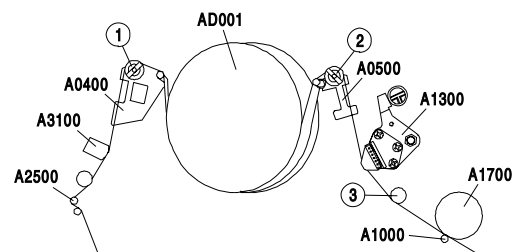

Fig. 22
- Re-adjust the reverse rollers (1 / 2) (Fig. 22) if necessary so that the tape does not touch the top or bottom edge of the rollers.
- Adjust the tilt of the A/C head with screw (4) (Fig. 24) so that the tape passes the tape guide pin (3) (Fig. 22 / 23) in the middle between the top and bottom edge.
- Adjust the reverse rollers ① / ② (Fig. 22) so that the FM packages at the tape lead-in and lead-out side do not exceed the limit value $b/a \leq 0.75$ (Fig. 25).
- Set the reverse rollers ① / ② (Fig. 22) so that the amplitude of the FM packages is as flat as possible.
turn the left reverse roller ① (Fig. 22) clockwise
turn the right reverse roller ② (Fig. 22) clockwise
turn the left reverse roller ① (Fig. 22) counterclockwise
turn the right reverse roller ② (Fig. 22) counterclockwise
- Press the "picture search reverse" button followed by the "play" button after 15 seconds. After another 3 seconds the FM packages must recover their maximum amplitude and flat envelope. If necessary, re-adjust the reverse rollers ① / ② (Fig. 22).